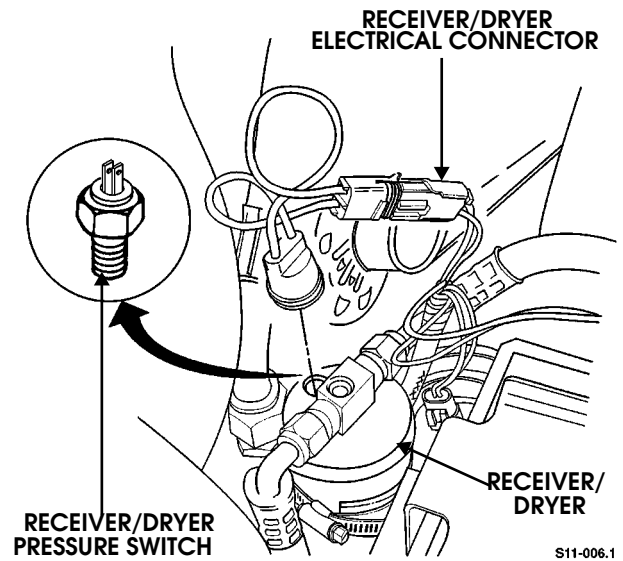

Figure 11-23: Receiver/Dryer Pressure Switch Mounting
1. Disconnect pressure switch jumper connector from receiver/dryer pressure switch (Figure 11-23).
1. Thread the new pressure switch on the receiver/dryer fitting by hand and use a wrench to finish securing the pressure switch. (Figure 11-23).